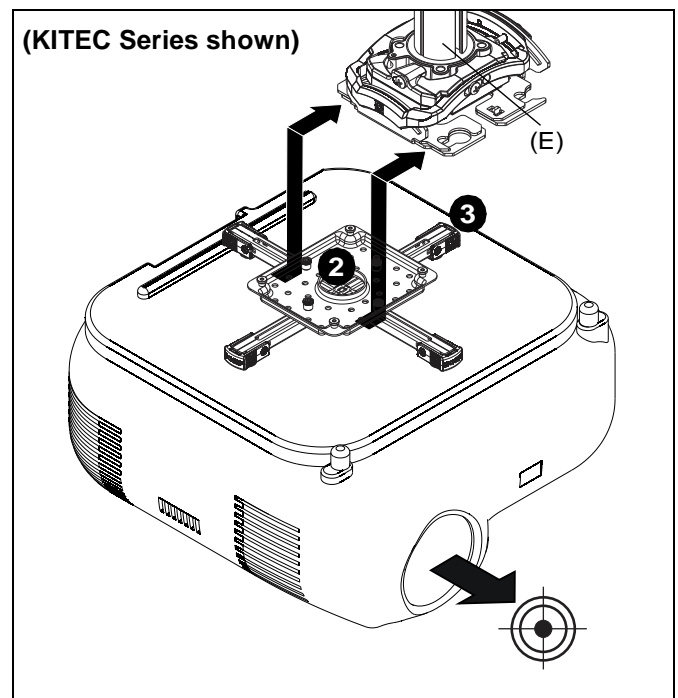

Figure 20
1. Orient projector with interface bracket. (See Figure 20)
2. Lift projector so that screws with thumb nuts are aligned with mounting slots in mount base. (See Figure 20)
3. Slide projector with mounting bracket onto mounting slots in mount base until screws are seated against the back of mounting slots. (See Figure 20)